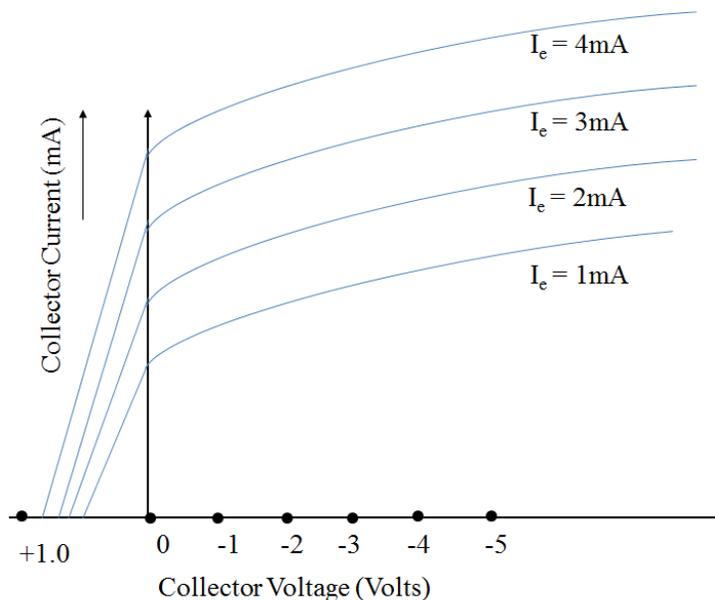

Figure 2. Output characteristics of collector current versus collector voltage
- (viii) Draw the characteristics as shown in figure 2.